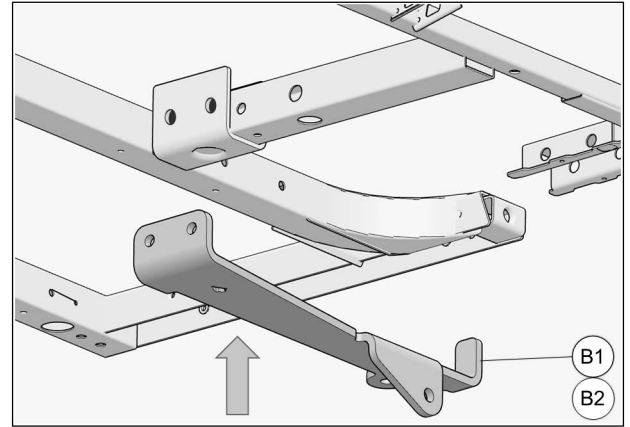

Fig. 6
5. Bring rear anchor bracket (B1-B2) up to footrest sub-frame as shown in Fig. 6